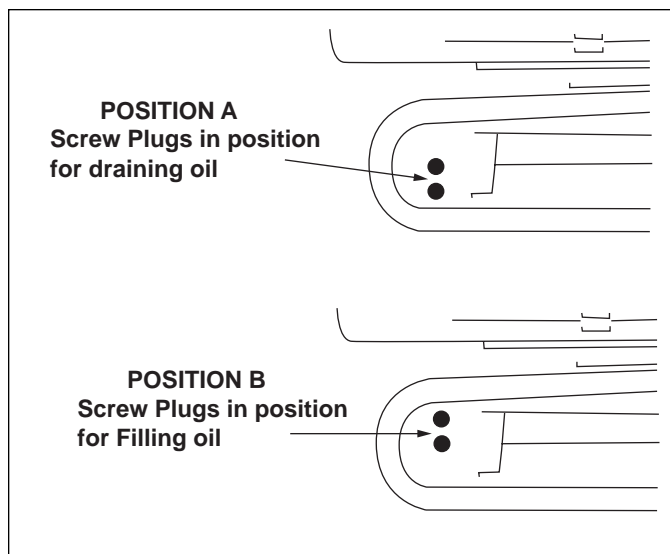

Figure 4-16 Changing Final Drive Oil
1. Position the machine on a level surface with final drive plugs positioned as shown in POSITION A, Figure 4-16. Turn off the engine.
3. Turn the engine on and move the machine slightly until plugs are positioned as shown in POSITION B, Figure 4-16. Turn off the engine.